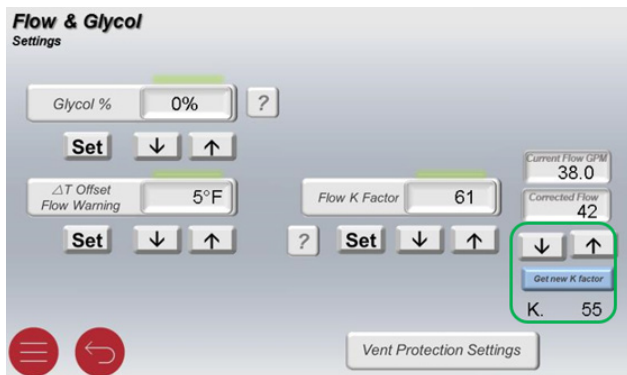

Figure 67. Get New "K Factor" Settings
7. Once the reference flow meter is set, tap "Get new K factor" button to obtain new value. See **Figure 67**.